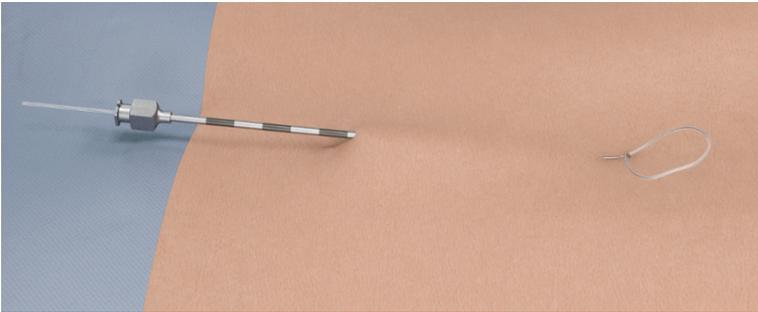

Figure 10
2. Take the proximal tip of the Electrode Array and Receiver and thread it through the distal tip of the needle to the subcutaneous Receiver pocket (see Figure 10).